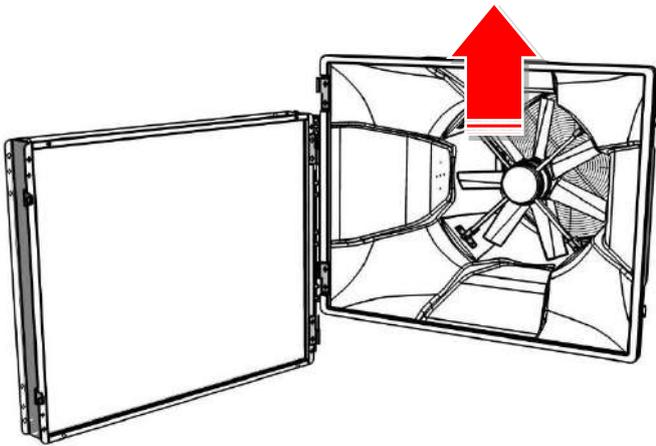

Fig. 4.4.3
- Remove the machine body from the hinges (Fig. 4.4.3).